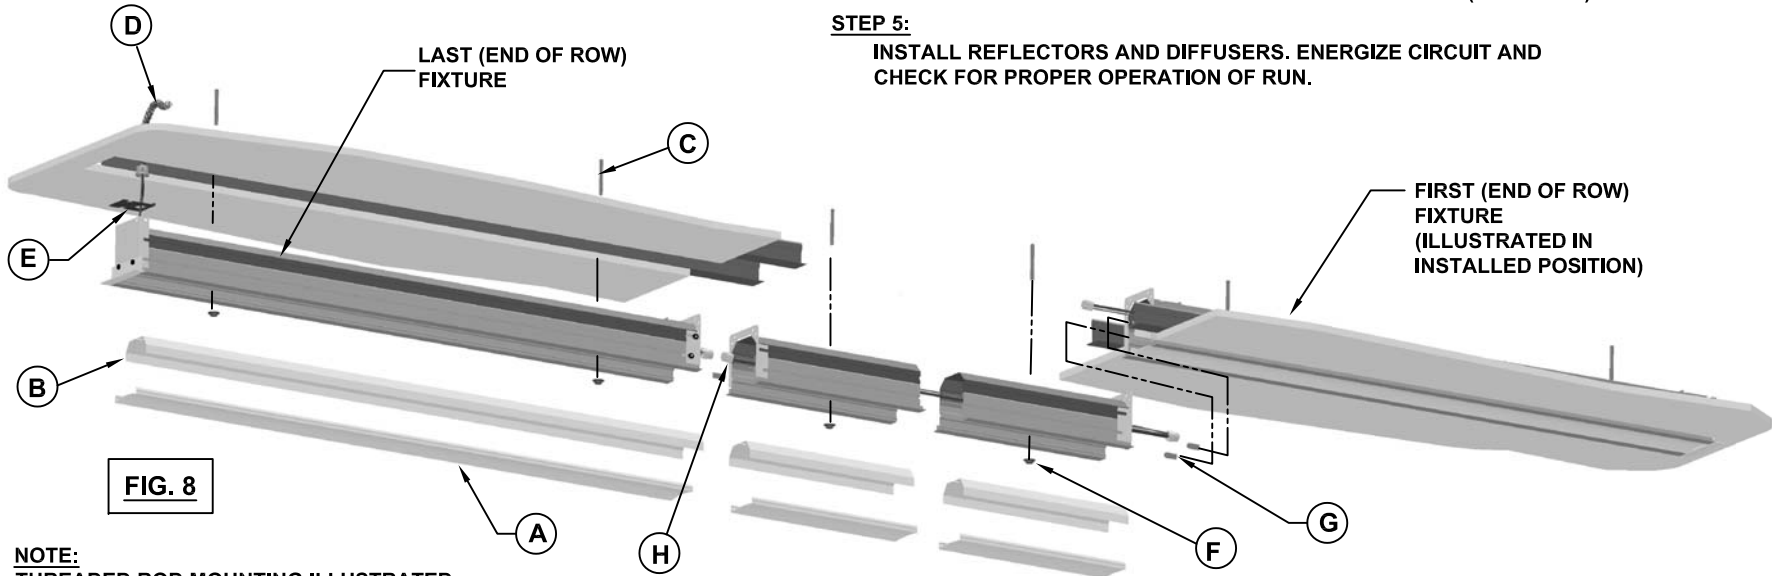

FIG. 8
BEFORE INSTALLING LAST FIXTURE (LEFT HAND END OF ROW) IN RUN, TEMPORARILY SUPPORT FIXTURE AND REMOVE ACCESS PLATE (E) AND PULL FIXTURE LEADS OUT THROUGH OPENING. REMOVE KNOCK-OUT FROM ACCESS PLATE AND INSTALL FLEXIBLE CONDUIT FEED (D) TO ACCESS PLATE. ATTACH GROUND WIRE TO STUD ON INSIDE OF ACCESS PLATE AND MAKE OTHER WIRE CONNECTIONS MAINTAINING COLOR CODING OF WIRES. PUSH EXCESS WIRE INTO FIXTURE HOUSING AND SECURE ACCESS PLATE TO HOUSING ENSURING THAT WIRES ARE NOT PINCHED BETWEEN FIXTURE AND ACCESS PLATE. (REF. FIG. 8)